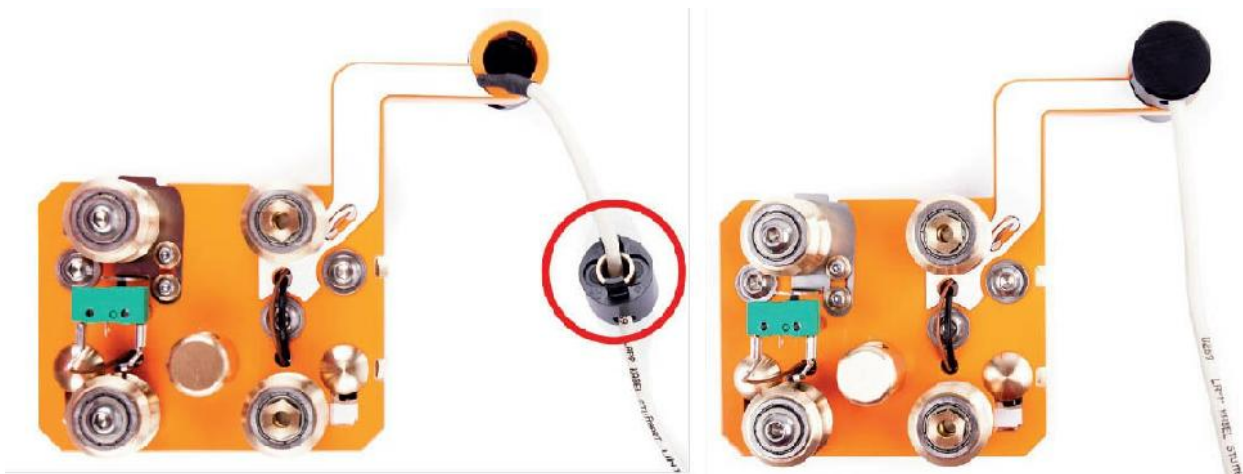

Fig. 2.18 *Mounting the brass ring in the cable collector*
27. Remove the cable collector and thread the brass ring and the cable collector onto the connector cable. Insert the brass ring into the cable collector, as shown in figure 2.18, and reattach the holder to the X-Z connector.